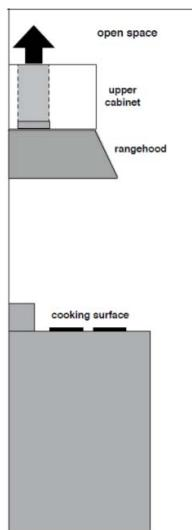
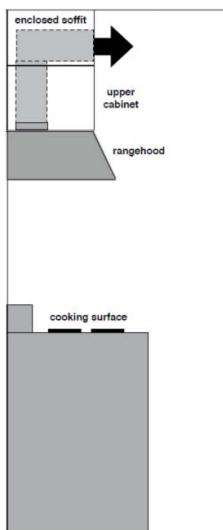

FIGURE 3A
FIGURE 3B
2) Duct work must be installed to exhaust the rangehood back into the kitchen, either at the top of the cabinet (FIGURE 3A) or at the face or side of the soffit (FIGURE 3B). Install at least 15" of metal duct (fig.3A and 3B) at the air exit. Run the duct vertically and secure it at the opening cut out at the top or side of the cabinet or soffit. Installation of metal grill is recommended. This duct work must not terminate into a dead air space. FILTER1 must be purchased to complete this type of installation.